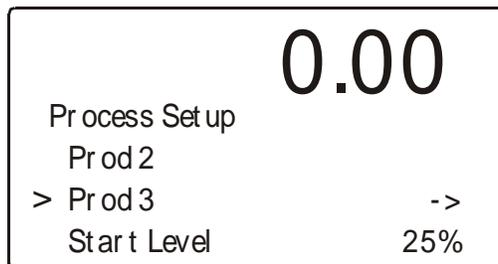

FIG. 3-12 INSTRUMENT SETUP MENU/SETTING PROD 3 PARAMETERS
- Step 8. Press the “-” button until the cursor is in front of “Prod3” (See Fig. 3-12)